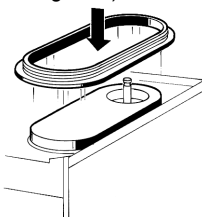

figure 6
- 4** Fit the bowl gasket to the evaporator. Note: the largest brim of the gasket must face against the drip plate (see figure 6).